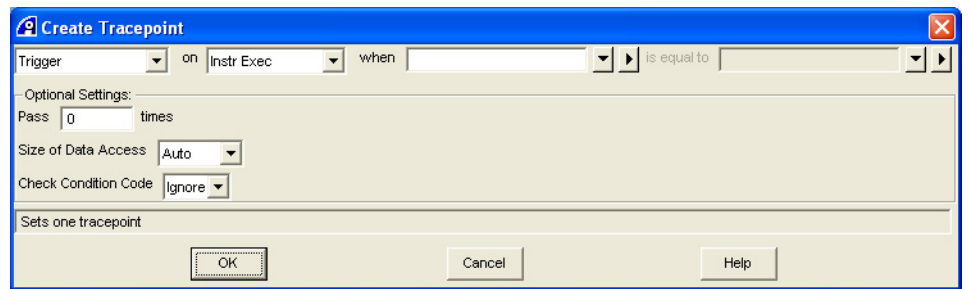

Figure 10-58 Create Tracepoint dialog box
- a. Select **Debug → Tracepoints → Create Tracepoint...** from the Code window main menu to display the Create Tracepoint dialog box. Figure 10-58 on page 10-54 shows an example: